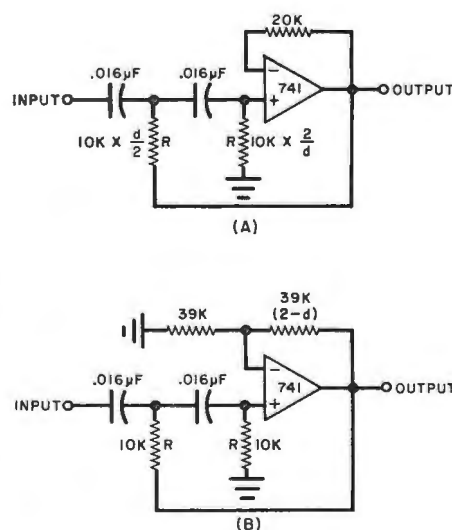

Fig. 3. High-pass filters: unity gain (A) and equal component (B).
**High-pass.** The Sallen-Key circuits can be used for high-pass by making them mirror images of the low-pass. These are shown in Fig. 3. Note that the unity gain version (3A) now has resistor ratios set by the damping and 1:1 capacitor ratios, so there is no way to switch the same parts around for identical low-pass and high-pass responses. The equal component value circuit of Fig. 3B doesn't have this problem and we get from high-pass to low-pass with 4pdt switching. Since there is an internal dc bias path, we no longer have to worry about providing a dc return through the source.